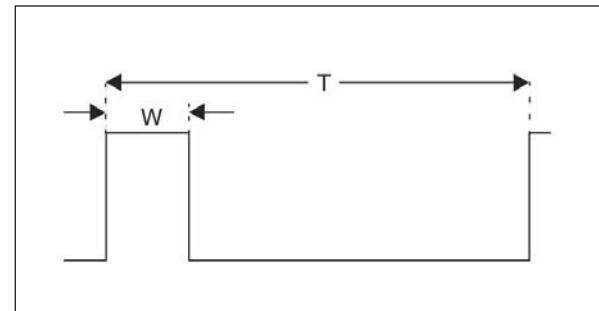
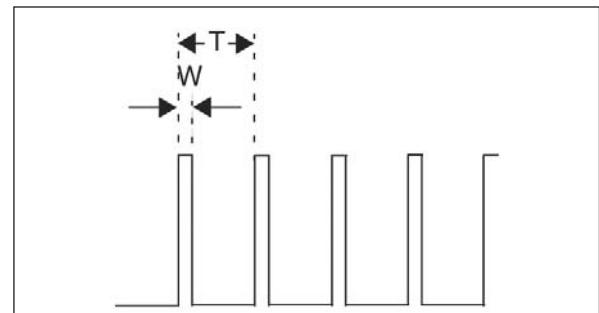

Figure 3: Low RPM
Figure 4: High RPM
In **Figure 3** and **Figure 4**, the waveform is high when light is passing through a slot in the encoder wheel and shining on the optical sensor. In the case of a Hall Effect sensor, the high corresponds to the time that the magnet is in front of the sensor. These figures show the difference in the waveforms for varying RPMs. Notice that as RPM increases, the period (T) and pulse-width (W) become smaller. Both period and pulse-width are proportional to RPM. However, since the period is the greater of the two intervals, it is good practice to measure the period so that the RPM reading from the sensor will have the best resolution. See TIP 1 in the "Tips 'n Tricks – PICmicro Microcontroller CCP and ECCP" booklet (DS41214) for measuring period. In addition, see Tip 2 (also shown in the DS41214 booklet), which features a technique for measuring period with averaging, but is also useful for measuring high RPMs.